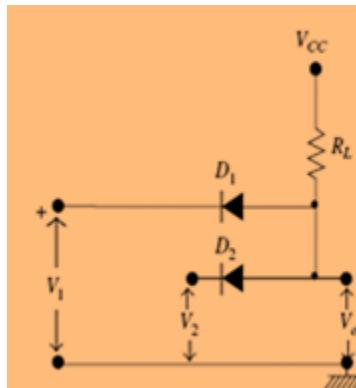

FIGURE 5.1 A two-input AND gate
An AND gate is a digital circuit which gives a high output only when all the inputs are simultaneously high (1), otherwise the output is low (0). Consider a simple two-input AND gate using diodes (See Fig. 5.1).